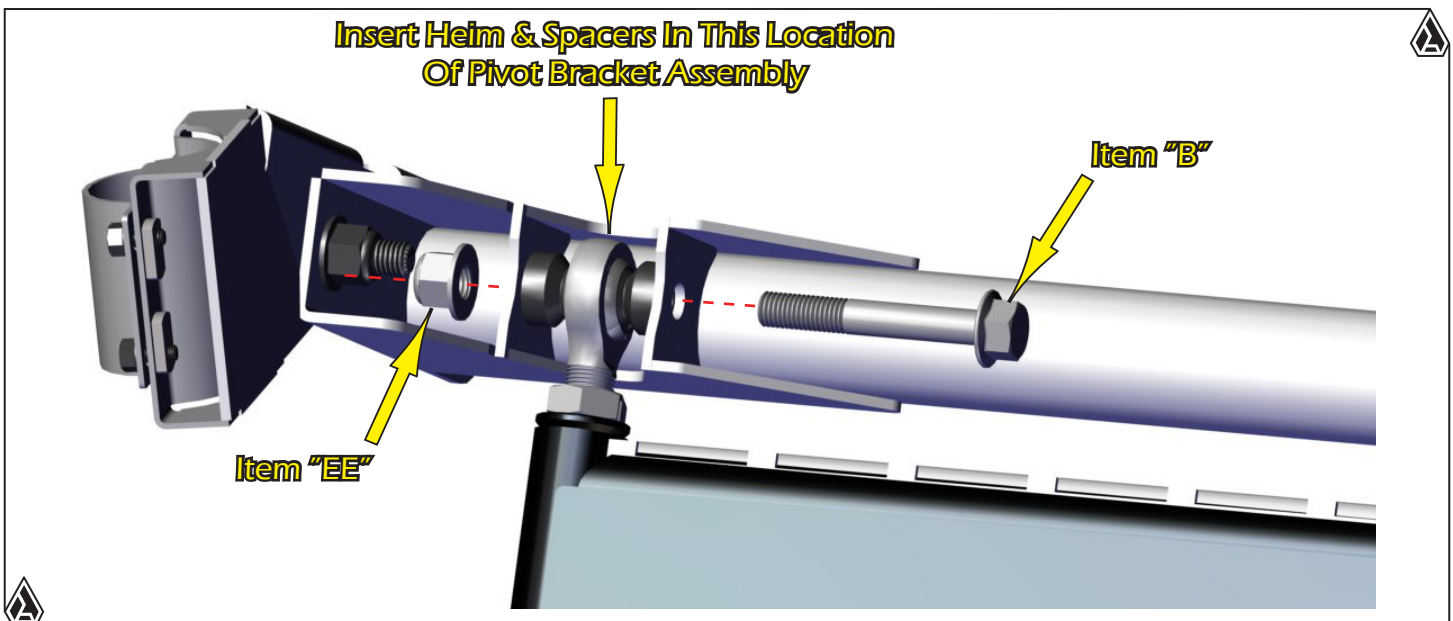
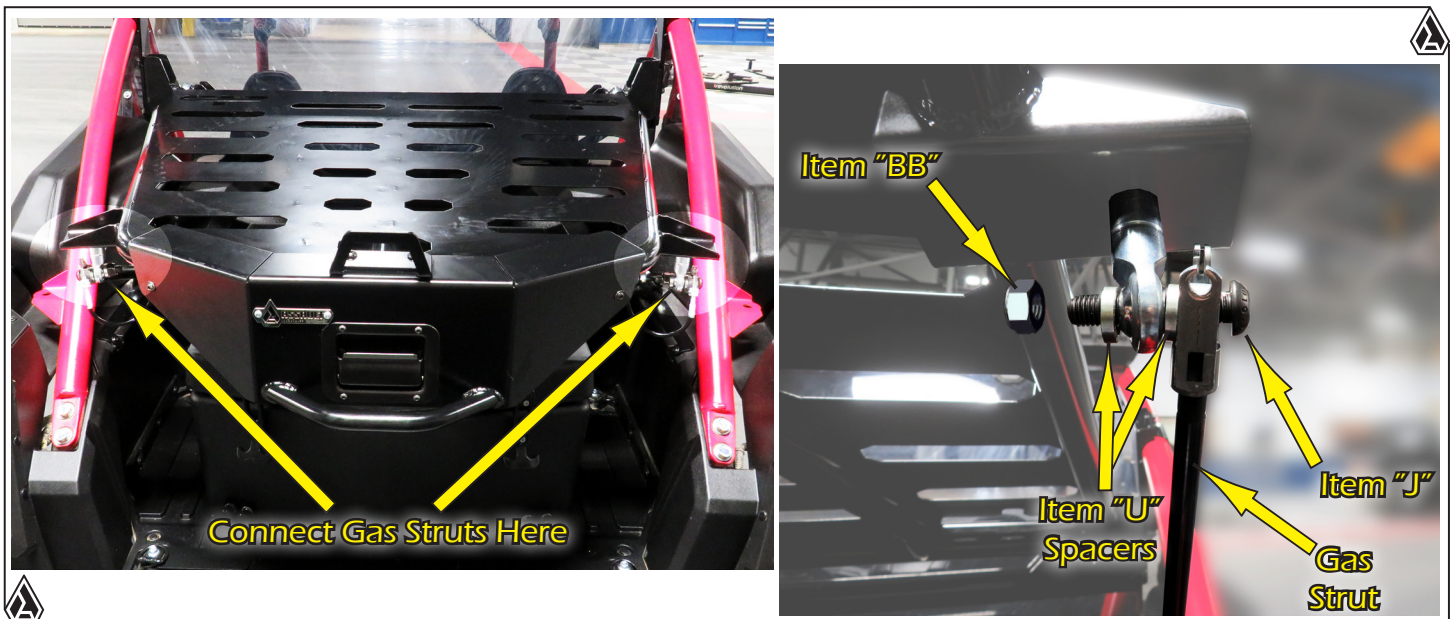

FIG.19
FIG.20
19. Next, you will install the Rack into the Pivot Bracket Assembly by sliding into the space shown in Fig.19 above. Then you will secure it using an M12x80 Hex Bolt, Item "B" and M12 Nylock Nut, Item "EE" provided in your kit and secure. Repeat for opposite side.
20. Next, you will install the Rack into the Pivot Bracket Assembly by sliding into the space shown in Fig.19 above. Then you will secure it using an M12x80 Hex Bolt, Item "B" and M12 Nylock Nut, Item "EE" provided in your kit and secure. Be sure to install them in the exact order shown in Fig.20. Repeat for opposite side.